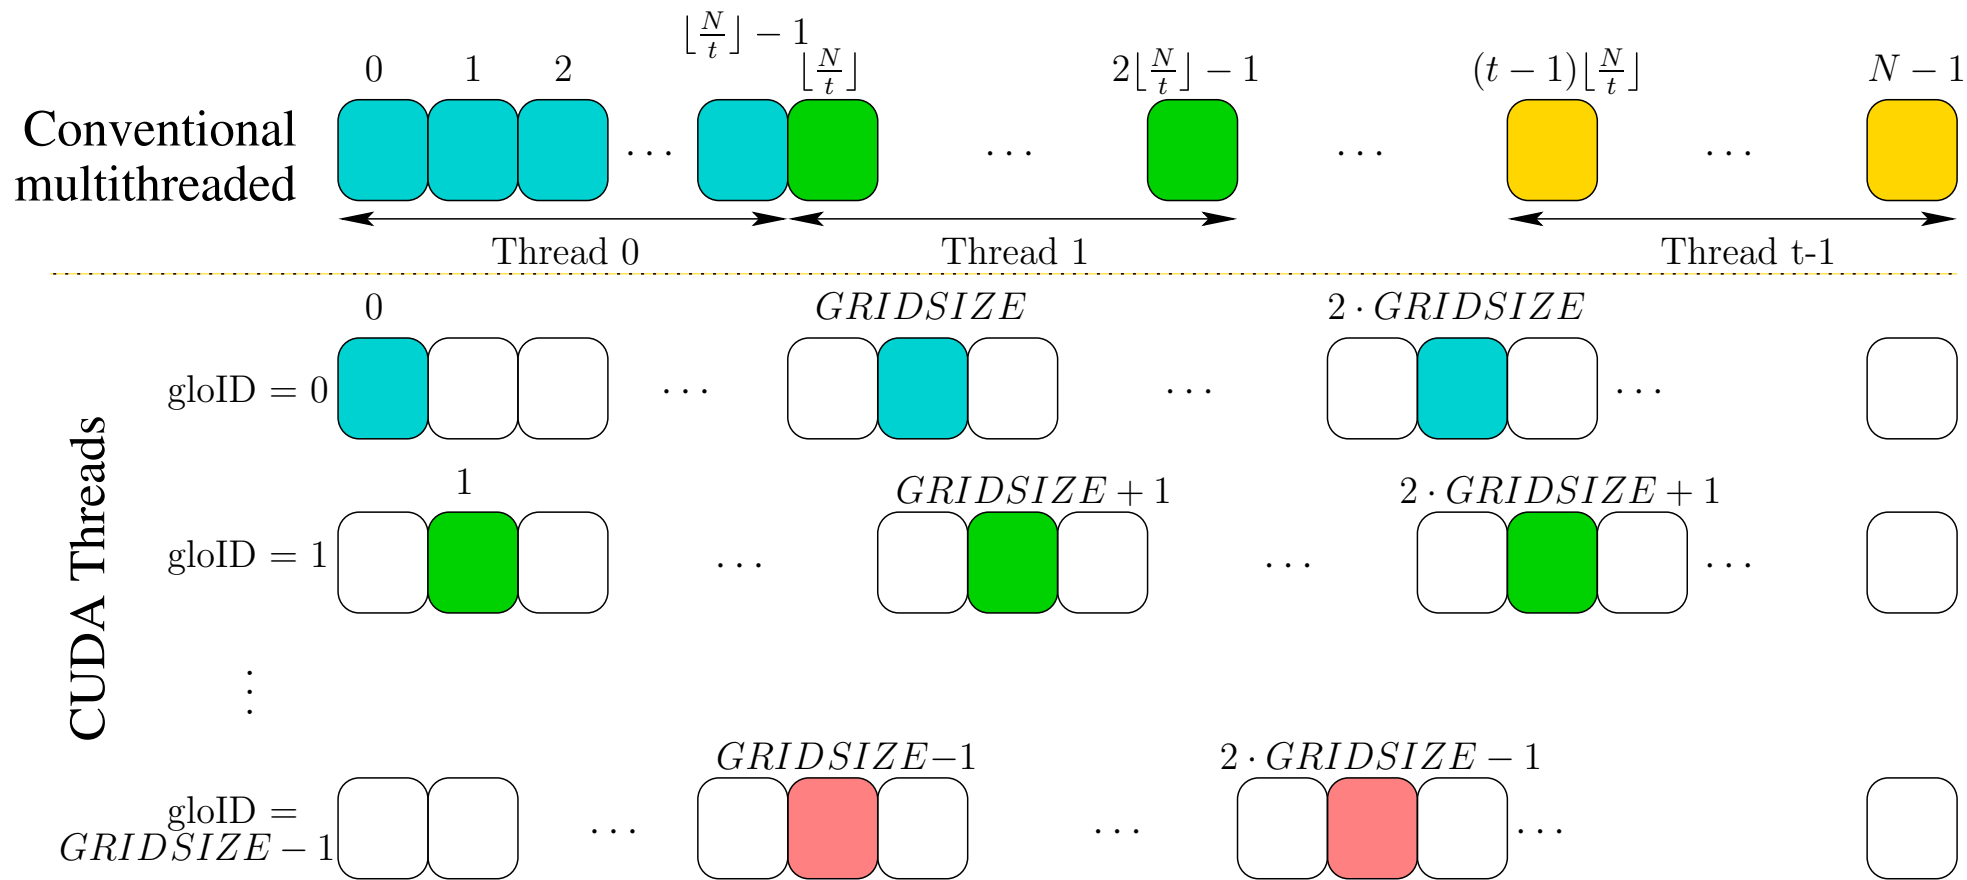

FIGURE 6.9
- The data partitioning is implicit. All the spawned CUDA threads have access to all the image data but go through them using a different starting point and an appropriate stride that makes it possible to cover all the data while coalescing memory accesses (more on this topic in Section 6.7). This difference is highlighted in Figure 6.9.